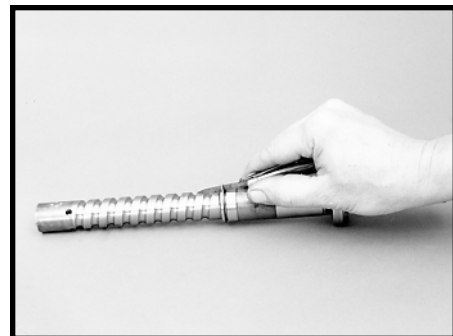

Figure 81
39. Remove and discard the worm shaft seal ring (18). Then, remove and discard the worm shaft “O” ring (17) from the worm shaft/input shaft (16). SEE FIGURE 81.